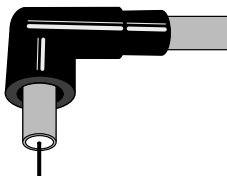

Figure 2
6. Strip the insulation from the $\frac{1}{2}$ " of wire. (See Figure 2).